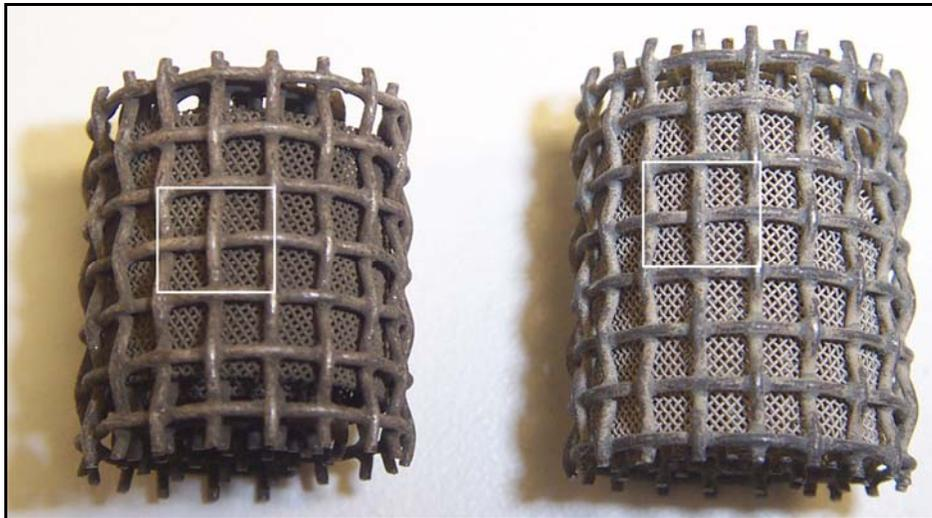

Figure 2
Above in Figure 2 you see (2) 1-inch purifier coils used in this demonstration